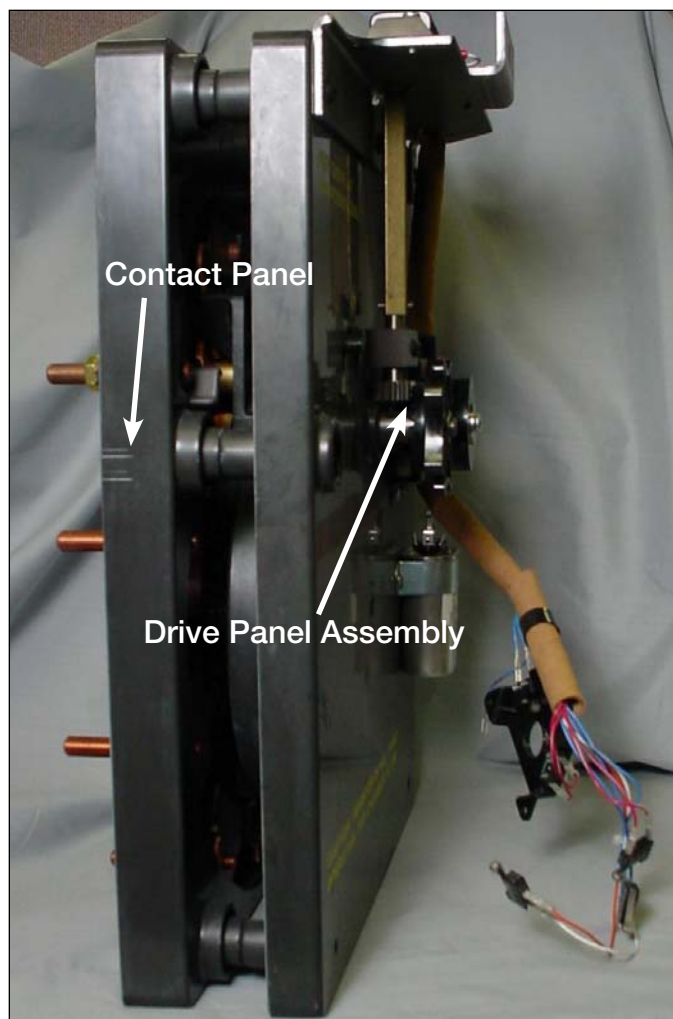

Figure 23.
4. Press both of the tap changer assembly sections together and stand up-right. See Figure 23.